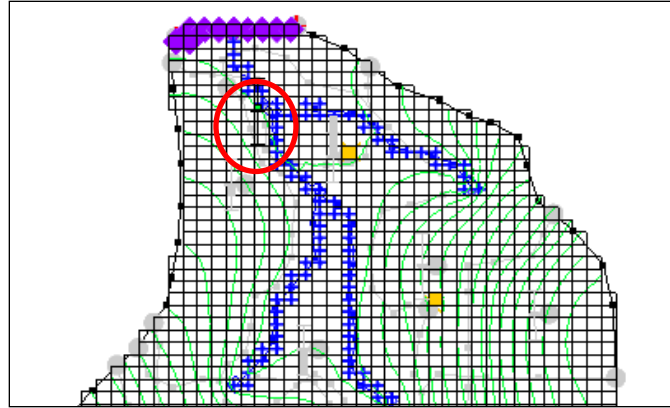

Figure 6 Observation target shows very small residual error
4. Select the “ Sources & Sinks” coverage. Notice that the observation target (located near the top of the stream) shows very little residual error (red circle in Figure 6).